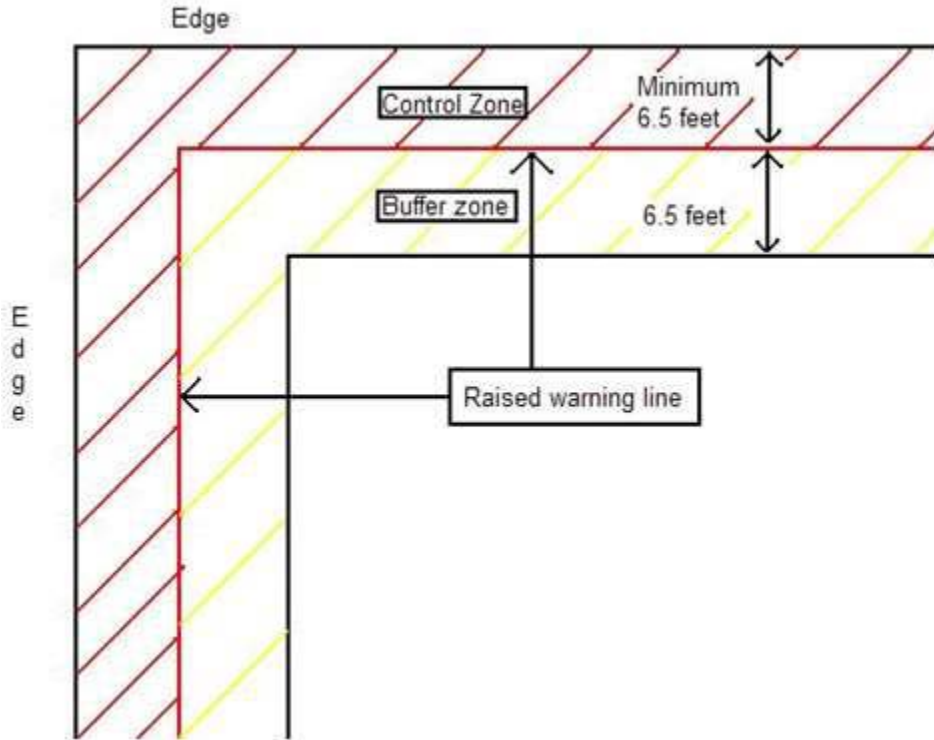

Figure 1
<p>Procedure</p> <ol style="list-style-type: none"> <li>1. Directions <ol style="list-style-type: none"> <li>a. A control zone with a safety monitor may be used as the means of fall protection under section where it is not practicable to use a method of fall restraint or fall arrest or where the use of a fall arrest system will result in greater hazards</li> <li>b. Use of a control zone is not permitted on a working surface where the slope of the surface exceeds 3 vertical inches in 12 horizontal inches or for scaffolds</li> </ol> </li> <li>2. Definitions (See Figure 1) <ol style="list-style-type: none"> <li>a. Control Zone means the area between an unguarded edge of a building or structure and a line which is set back a safe distance of at least two meters (6.5 feet)</li> <li>b. Safety Monitor System means a system in which a trained worker is designated to monitor work activities in a control zone to ensure that work is done in a manner that minimizes the potential for a worker to fall</li> <li>c. Buffer Zone means the area immediately outside the inner edge of the control zone and extending a further two meters (6.5 feet) in from that edge</li> </ol> </li> <li>3. Width of the Control Zone <ol style="list-style-type: none"> <li>a. Must be at least two metres (6.5 feet), with additional distance if any of the following conditions exists:               <ol style="list-style-type: none"> <li>i. The working surface is slippery or sloped</li> <li>ii. The work is carried out at an elevation relative to the unguarded edge</li> <li>iii. The risk is increased by the use of equipment near the control zone</li> </ol> </li> <li>b. Only workers directly required for the work at hand should be inside the control zone</li> </ol> </li> </ol>
**4. Raised Warning Line (See Figure 1)**